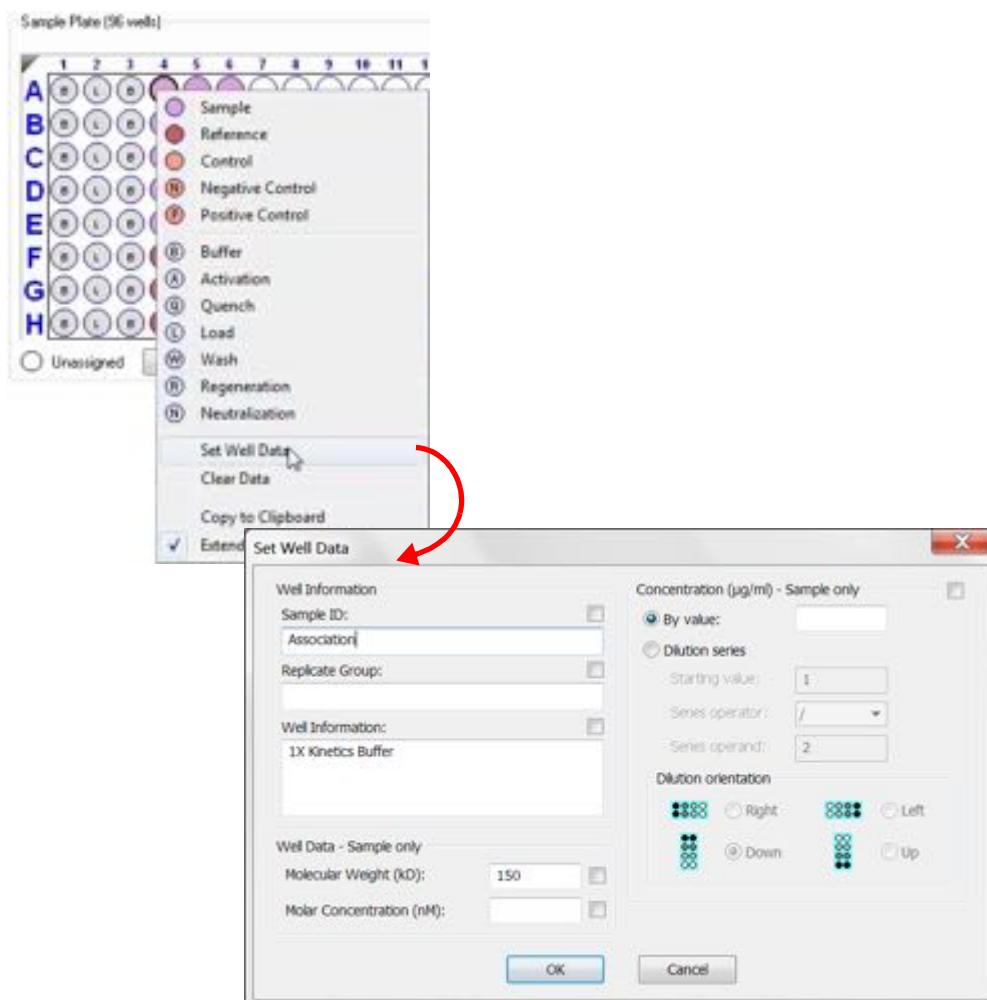

Figure 9-10: Add Sample Annotations from the Sample Plate Map
2. In the **Set Well Data** dialog box (see Figure 9-10), enter the **Sample ID** and/or **Well Information** and click **OK**.